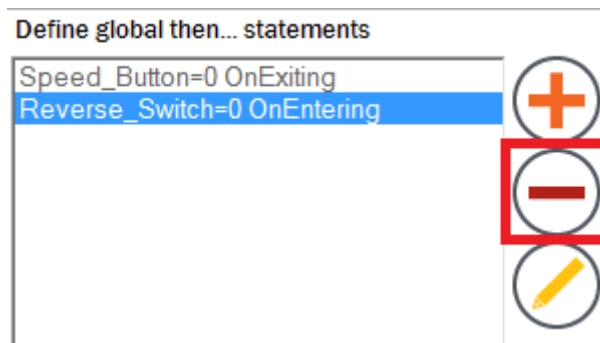

Figure 187. Delete global action
- Actions are removed by selecting the condition and clicking the "Delete" button (Figure 187).